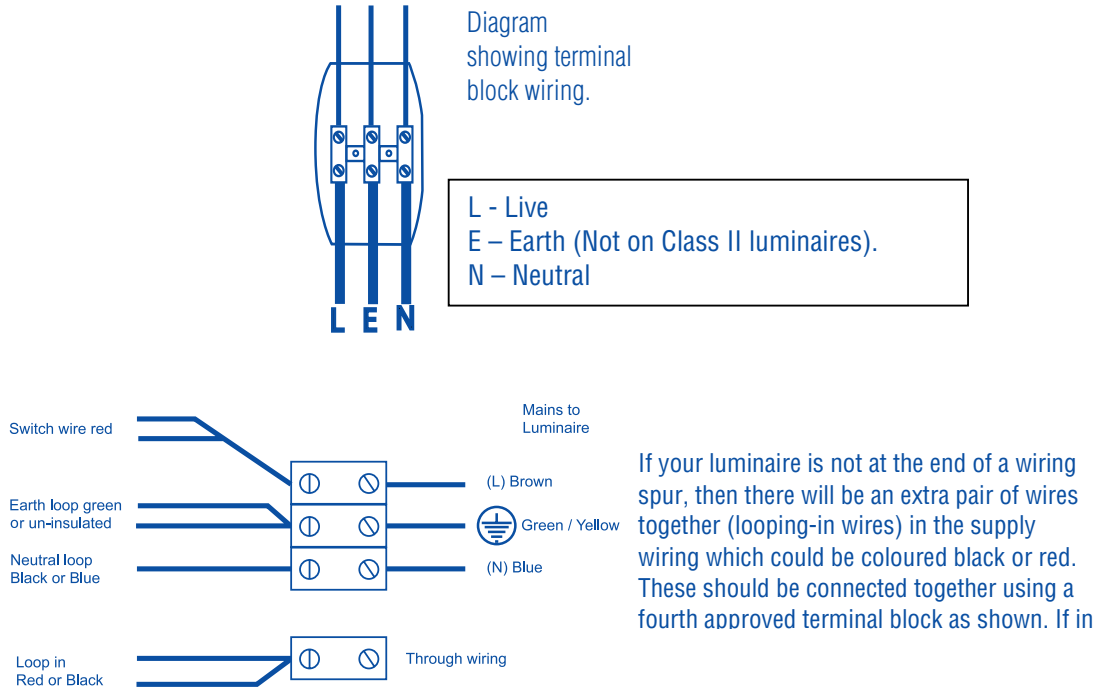

Fig. 1
5. The “looping-in” of the fixed wiring supply should be maintained. See Fig. 1.